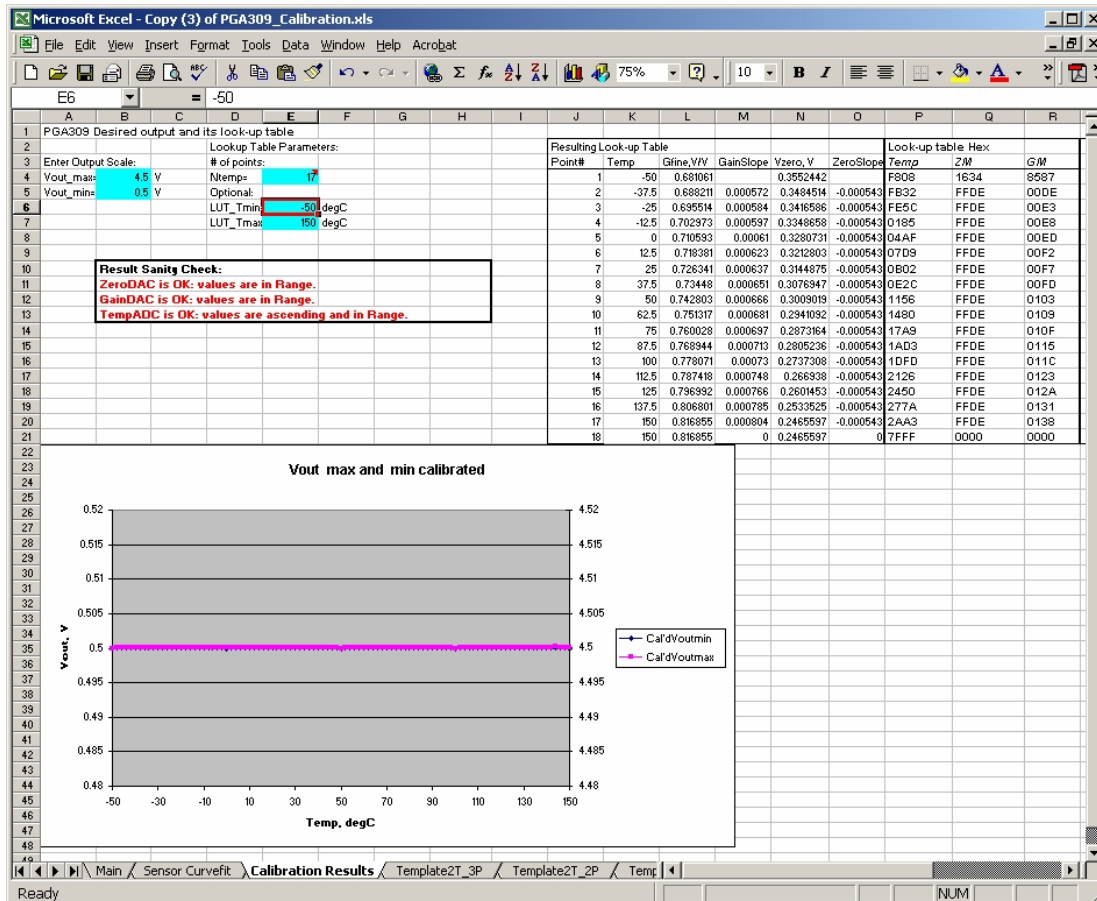

Figure 37: Calibration Results
3) The third worksheet is called “Calibration Results” (see Figure 37). It contains the calculated lookup table based on the curve-fitting coefficients from the calibration measurements. The blue fields are for the user data with the desired output voltage scale, compensation temperature range and the number of the lookup table points needed. The framed cells contain the messages about the validity of the calculated values: whether the DAC and Temp ADC values are in linear range achievable by PGA309 at all temperatures and the Table is arranged properly. The plot on the bottom shows the expected PGA309 output vs. temperature at zero and full-scale output signal.